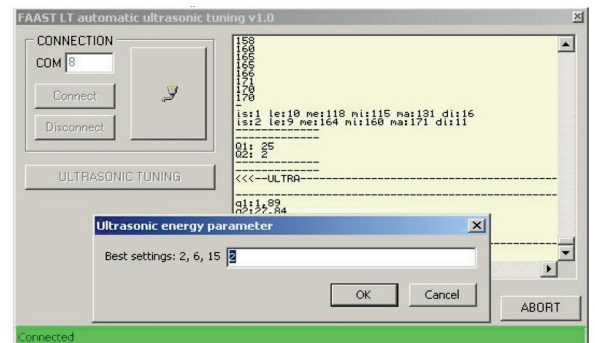

Figure 1.
4) Click on "ULTRASONIC TUNING". After about 3 minutes, the program calculates three parameters (e.g. best settings 2,6,15), and proposes the best parameter (e.g. "2") for selection. See Figure 1. to the right for an example; the program displays three parameters (2,6,15) and at the same time indicates that the best selection is "2".